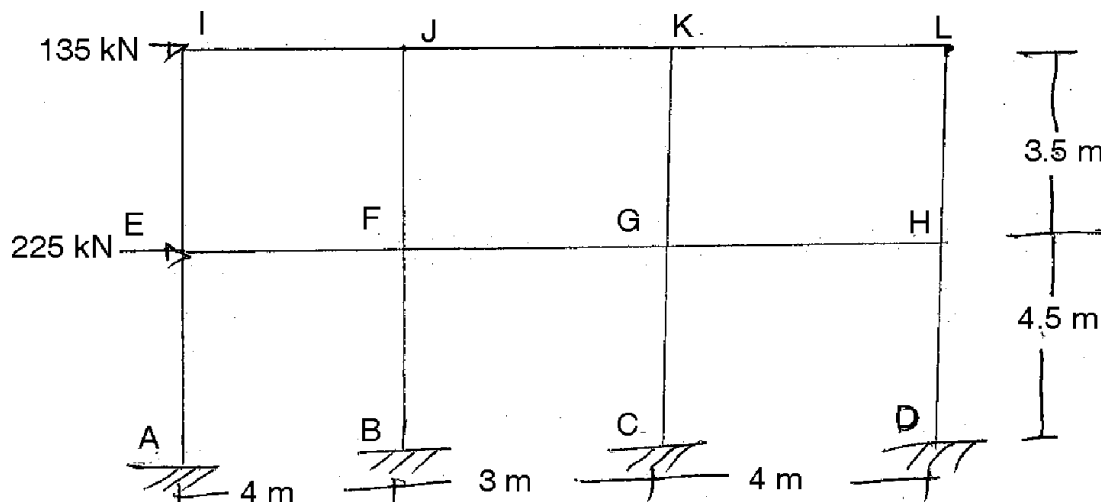

Figure 1
1. Determine the shears and moments in columns and beams of a building frame with moment resisting joints in figure 1, by cantilever method. Assume the area of bottom storey column as $2A$ and the area of top storey column as A . 17